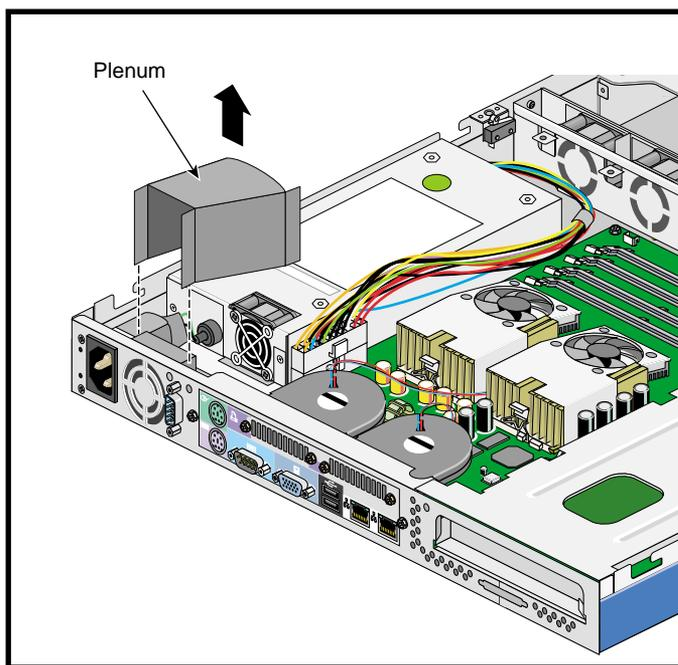

Figure 2-43 Removing the Plastic Plenum
6. Remove the plastic plenum by separating it from the power supply module and gently detaching it from the power socket module, as shown in Figure 2-43.